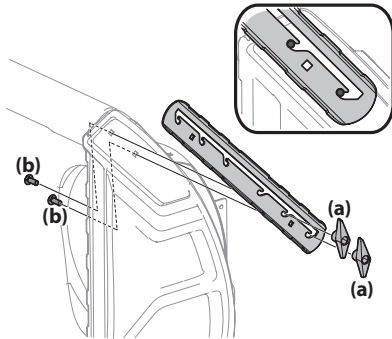

Figure 2-52
1. Remove two carriage bolts (a) and wing nuts (b) that secure each drift cutter, and remove them from the sides of auger housing. See Figure 2-52.
2. Turn the drift cutters around and position them as shown in Figure 2-52 to the outside of the auger housing.